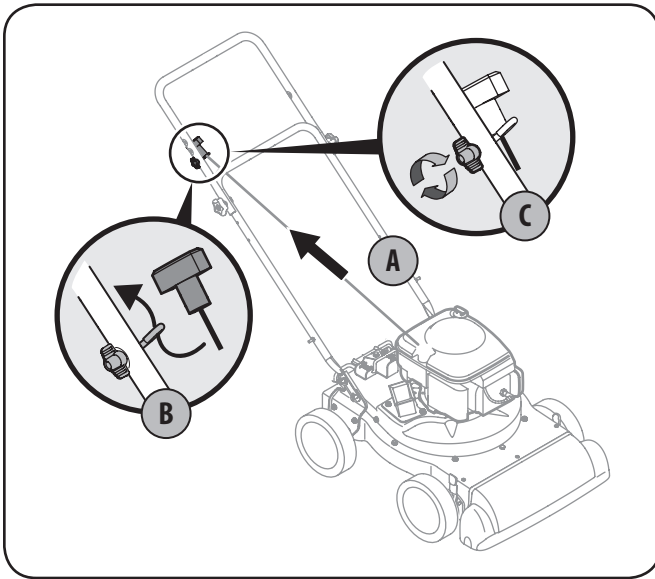

Figure 3-3
- c. Tighten the wing nut. See Figure 3-3.